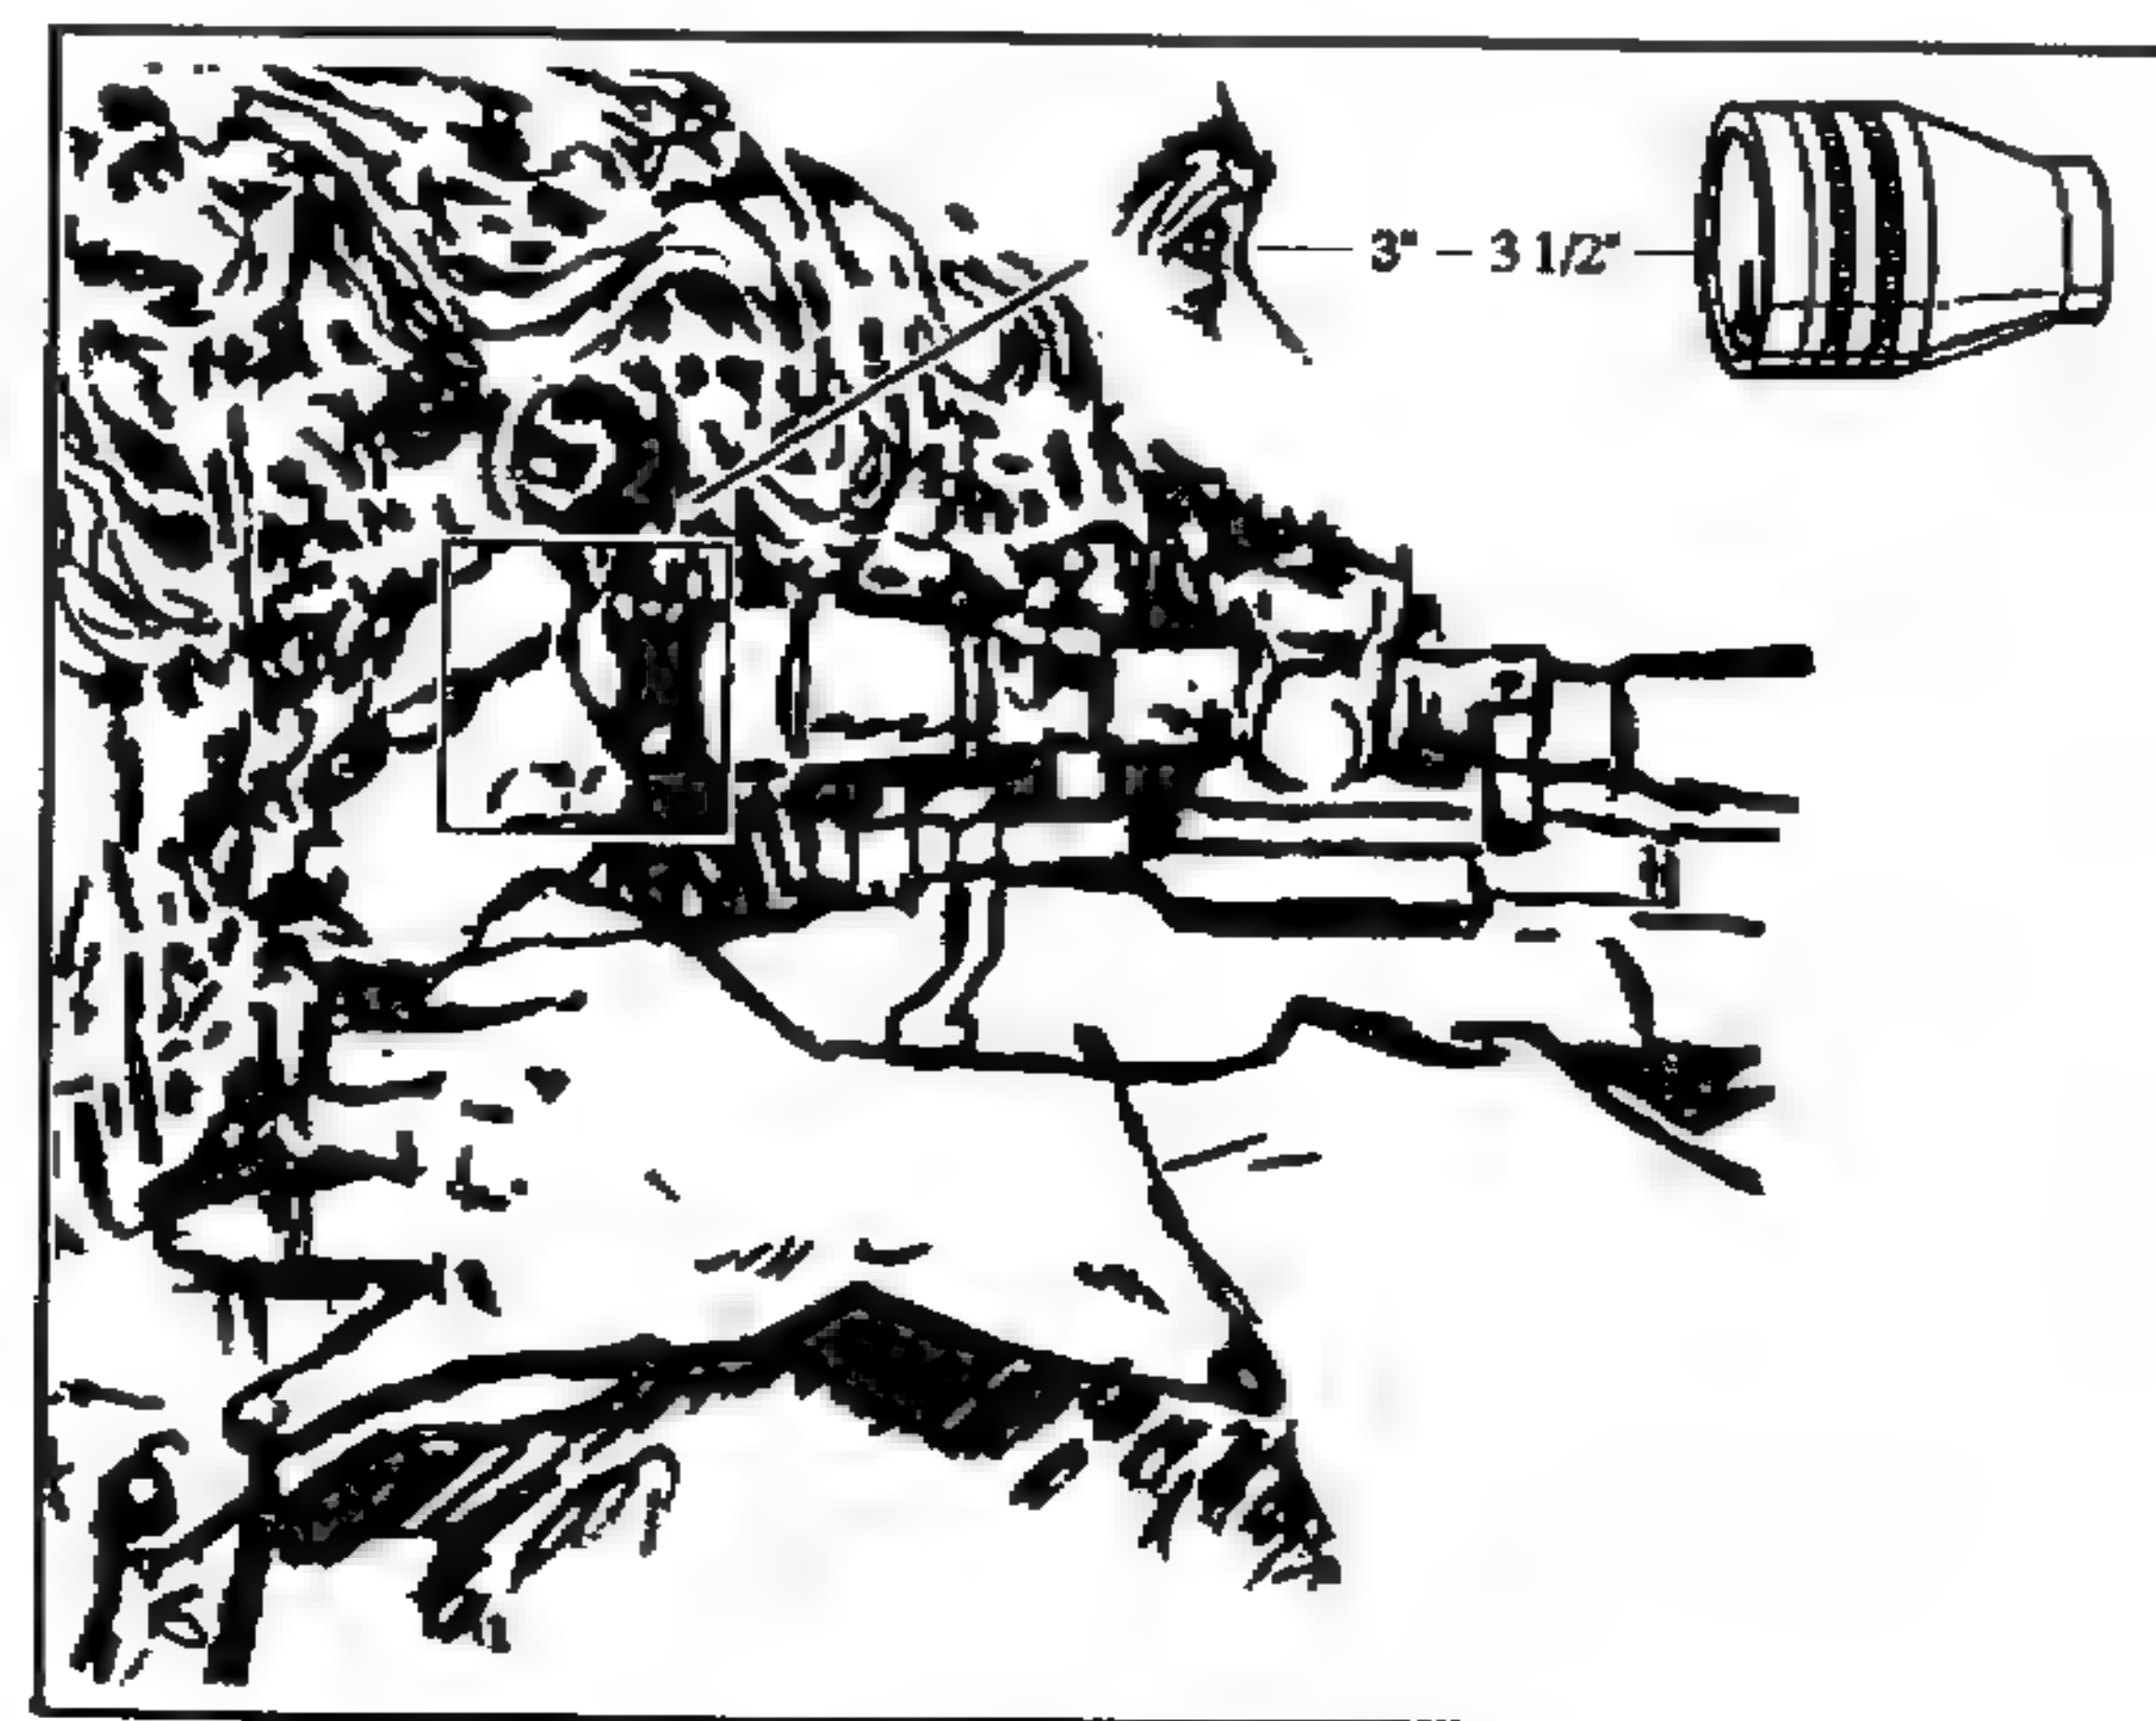

Figure 3-16. Eye relief.
a. **Eye Relief.** This is the distance from the sniper's firing eye to the rear sight or the rear of the scope tube. When using iron sights, the sniper ensures the distance remains consistent from shot to shot to preclude changing what he views through the rear sight. However, relief will vary from firing position to firing position and from sniper to sniper, according to the sniper's neck length, his angle of head approach to the stock, the depth of his shoulder pocket, and his firing position. This distance (Figure 3-16) is more rigidly controlled with telescopic sights than with iron sights. The sniper must take care to prevent eye injury caused by the scope tube striking his brow during recoil. Regardless of the sighting system he uses, he must place his head as upright as possible with his firing eye located directly behind the rear portion of the sighting system. This head placement also allows the muscles surrounding his eye to relax. Incorrect head placement causes the sniper to look out of the top or corner of his eye, resulting in muscular strain. Such strain leads to blurred vision and can also cause eye strain. The sniper can avoid eye strain by not staring through the telescopic or iron sights for extended periods. The best aid to consistent eye relief is maintaining the same stock weld from shot to shot.